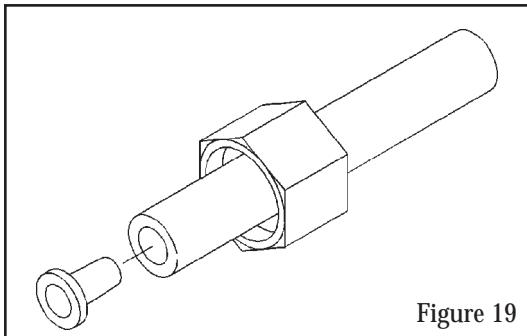

Figure 19
- Slip the white nut over one end of the tubing and press the plastic insert into the end of the tubing (Figure 19). Connect to the brine valve and tighten nut.
- Slip the white nut over one end of the tubing and press the plastic insert into the end of the tubing (Figure 19). Connect to the brine connection on the valve and tighten nut (Figure 18).